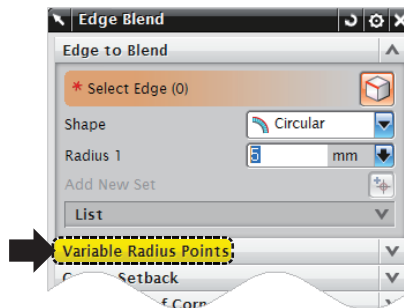

Fig 6-26 Variable Radius Points Option
5. Expand the option group by clicking the title of **Variable Radius Points** as shown in Fig 6-26.